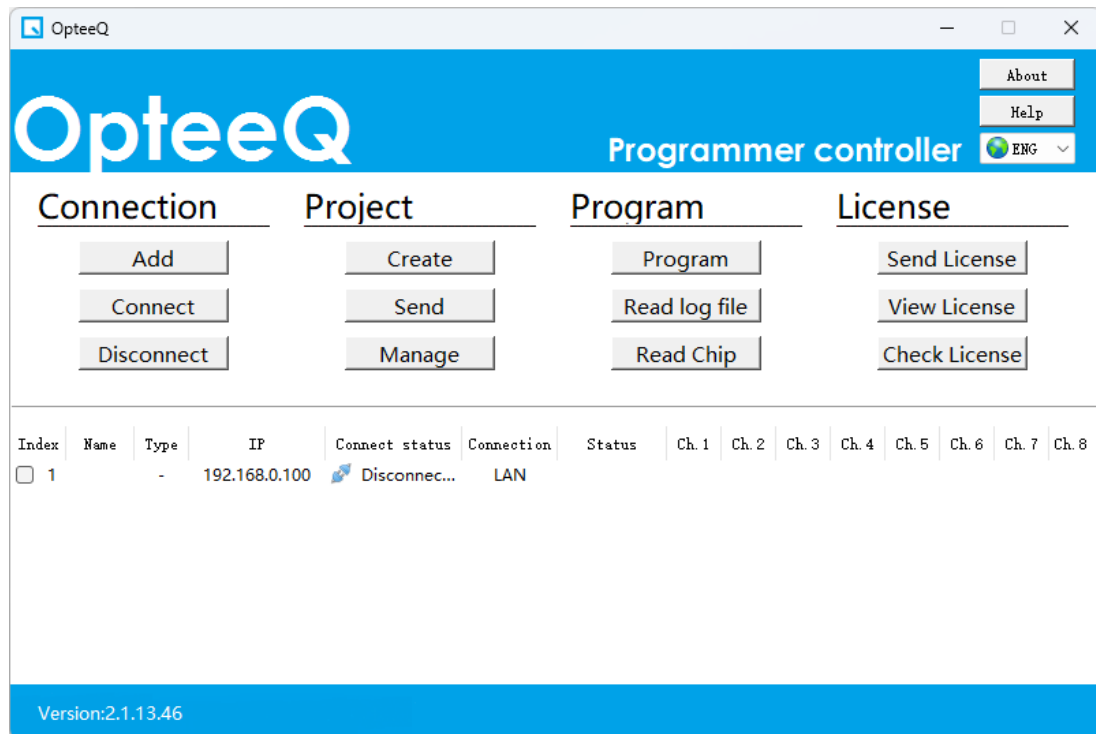

Figure 1.11 Step 11 - Main Interface of Programmer Software
Step 11: Double-click the desktop icon of the software to pop up its main interface, as shown in Figure 1.11.